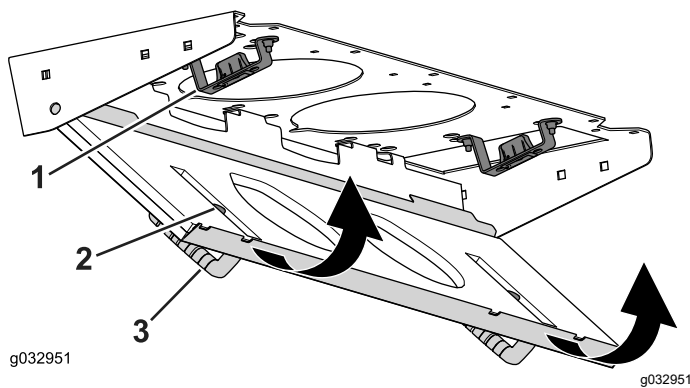

Figure 132
4. Rotate the filter screen around the tabs until the latch locks into the latch-mount assembly (Figure 132).